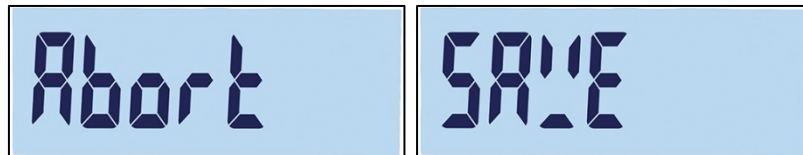

Figure 3-3: Prompts When Exiting Setup
1. Press the  key, or left  when in the root of the menu tree (F1, F2, etc. displayed). A message will appear asking whether to Abort or Save changes Figure 3-3.